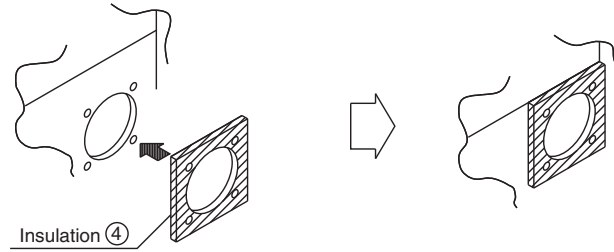
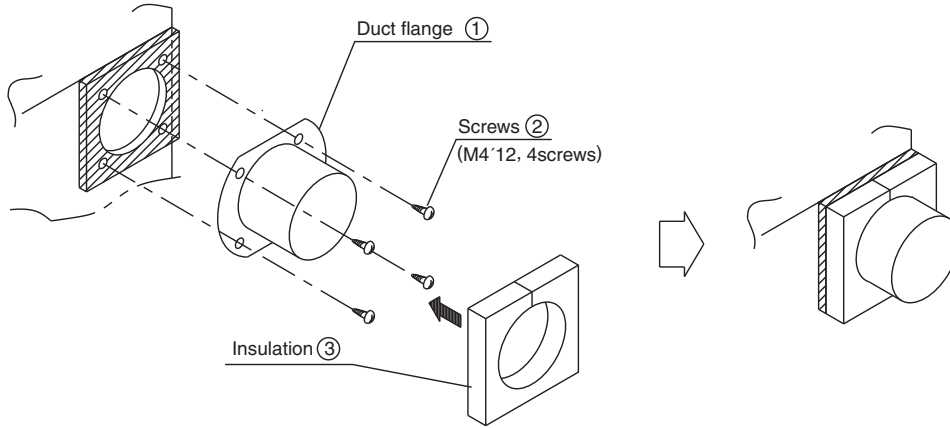

Fig. 2
Fig. 3
- (1) Adhere the insulations for side plate (3) in position, referring (Fig.1) (Fig.2).
- (2) Adhere the moisture absorber for bell-mouth (4) on the inner surface of the bell-mouth.
See (Fig.1) (Fig.2) (Fig.3).
2. Adhere the insulation ④ for opening of unit to the opening. (Fig. 2)
3. Install the duct flange ① with screws ② (M4\*12, 4 screws) to the opening and adhere the insulation ③ (Fig. 3)